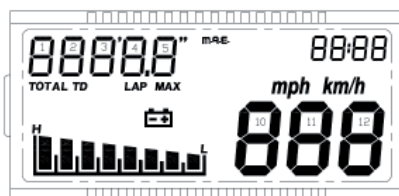

Fig. 18
- 2nd page (every time the instrument is switched on): Check of all lcd segments for approx. 3 seconds (fig. 18).